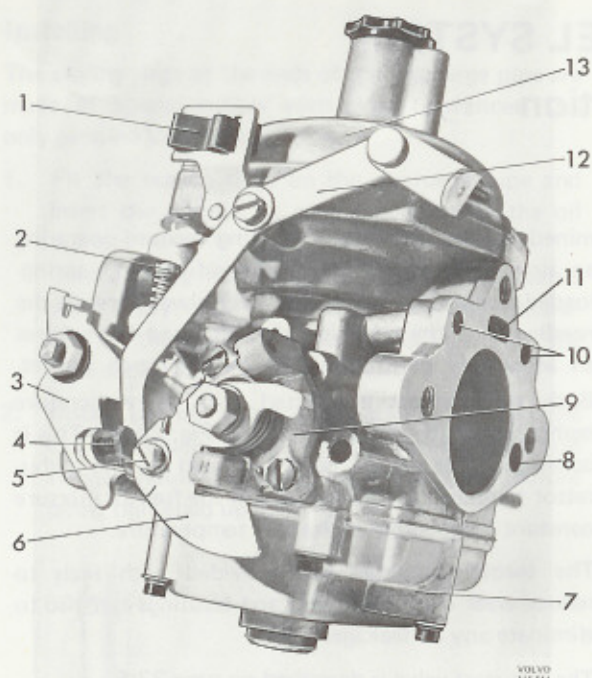
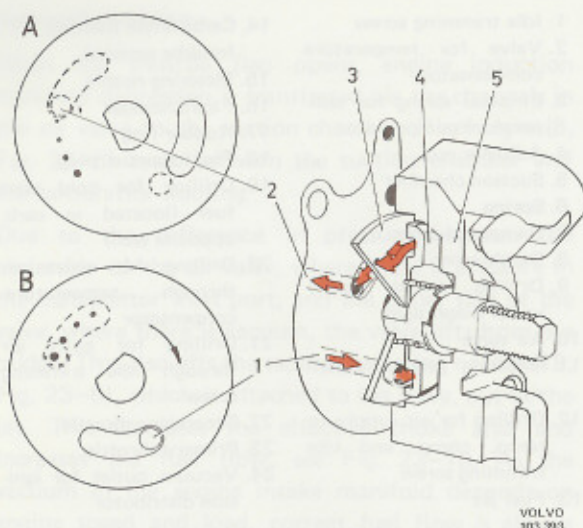

Fig. 23-3. Rear carburettor, from left
Fig. 23-6. Cold start device
To make starting easier during cold weather, the rear carburettor is fitted with a cold start device (9, Fig. 23-3).
The cold start device consists of a valve disc (3, Fig. 23-6) provided with four calibrated holes and an elongated opening as well as a disc (4) mounted on a spindle which is operated by the choke. Outside the
housing (5) on the same spindle, there is a cam disc (6, Fig. 23-3) with connection for the choke control pull wire. When the cold start device is engaged, the valve disc turns and this links up the channel (1, Fig. 23-6) from the floatchamber via one or several of the calibrated holes to the channel behind the valve disc and then the opening to the channel which terminates in the ventury (2) between the vacuum plunger and choke flap. Through this link-up, the engine receives extra fuel (richer mixture), to facilitate cold starts. At the same time a small supply of air is also obtained through the choke device. When
the choke is pushed in, the valve disc turns and closes the inlet to the channel. At the same time the cam disc is operated, the throttle flap opening is also influenced in such a way that turning the cam disc opens the throttle through the fast idle stop screw (4, Fig. 23-3) and the lever, before any of the calibrated holes open the connection to the fuel drilling. Thanks to this arrangement, the idling speed can if necessary be raised by the driver of the vehicle during the warming-up period of the engine.